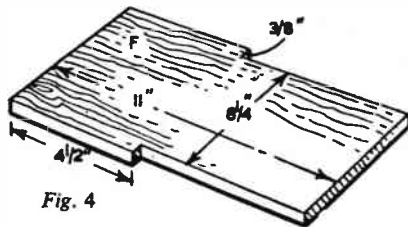

Fig. 4
Piece (F) is merely a flat board which forms a cover to go over the points. The dimensions are shown in Fig. 4.